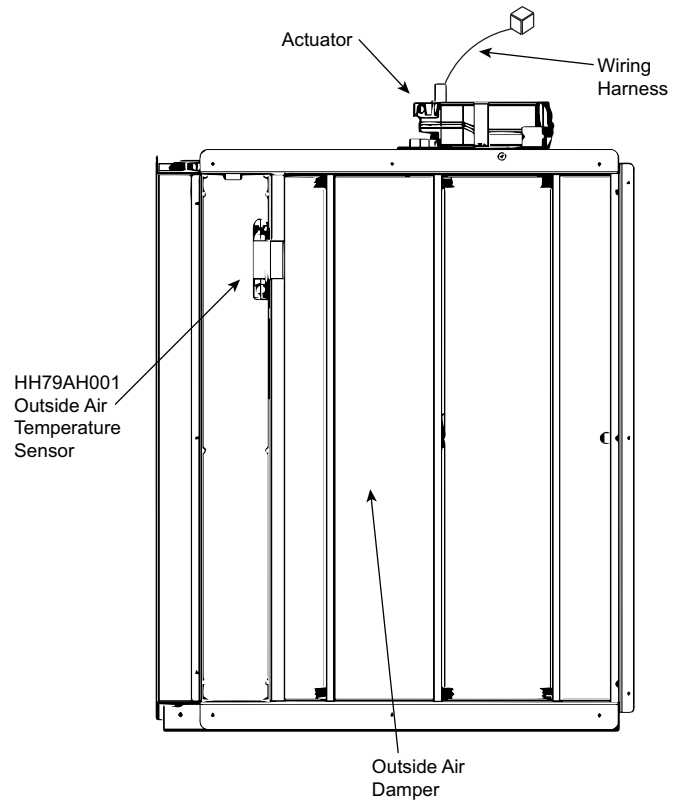

Fig. 1 — EconoMiSer X Component Locations (CRECOMZR085A00 Shown)
See Fig. 1 for component locations.
7. If the EconoMiSer X system will be operating with an enthalpy outside air sensor, remove the factory installed HH79AH001 dry bulb sensor from the front face of the economizer (see Fig. 1), and install the accessory enthalpy
When using the HH57AC081 (Honeywell C7400S) enthalpy sensor (see Fig. 21) for outside air changeover, the existing HH79AH001/HH79ZZ007 dry bulb sensor must be removed. The enthalpy sensor will be mounted in the same location as the dry bulb sensor (see Fig. 1). When the enthalpy sensor's OA temperature, enthalpy and dew point are below the respective setpoints, the outside air can be used for free-cooling. When any of these is above the setpoint, free-cooling will not be available. Figure 22 shows the enthalpy boundaries in the W7220 controller. There are (5) enthalpy boundaries (setpoints ES1 thru ES5), which are defined by dry bulb temperature, enthalpy, and dew point. ES3 is the default setting. (See Fig. 22.) Single Enthalpy and Dual Enthalpy High Limit Curves Table on page 9 shows the high limit curves for each setting.